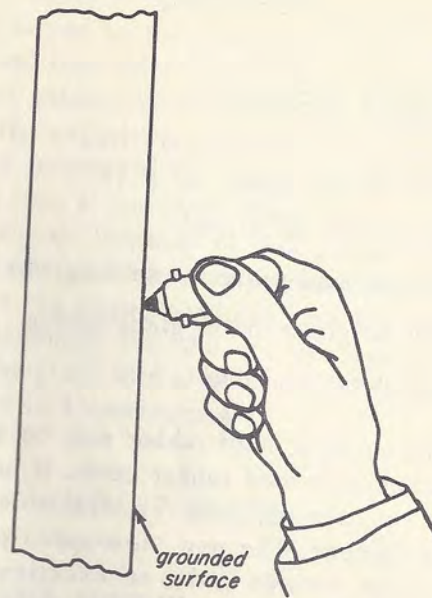

Fig. 4-1
Step 3. Hold the neon bulb by the metal band, as shown in Fig. 4-1. Touch the grounded surface with the contact on the bottom, and, at the same time, look at the neon bulb. If the weather and atmospheric conditions are favorable, and you have been able to charge your body, the neon bulb will glow for a moment. If you are not successful the first time, try again. If the weather is moist and humid, you may not be able to do this experiment. Wait for the first cool, dry day. Then conditions for performing this experiment will be better. Try this experiment then; you may be more successful.